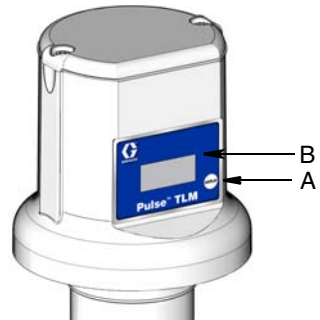

FIG. 2
- Press and hold the Display button (A, FIG. 2) until display (B) reads "REGISTER".